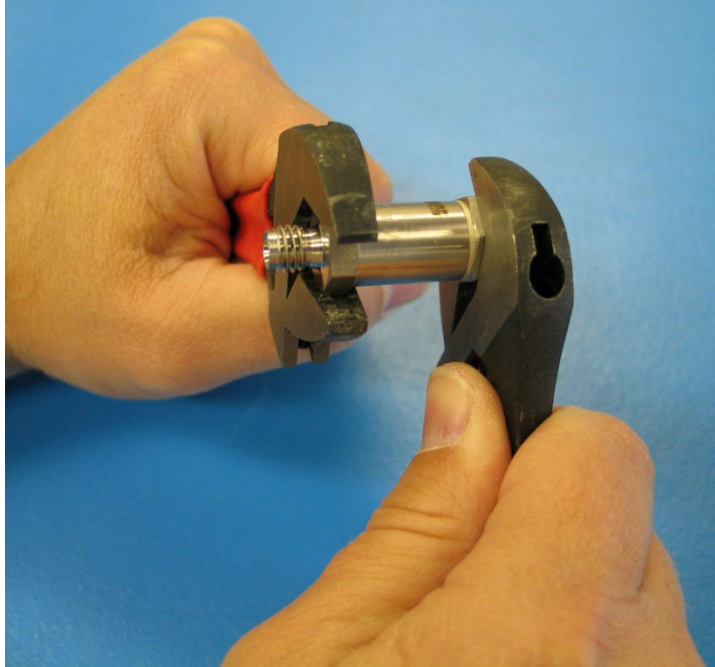

Figure 36: Removing the Filter End Caps
1. Using two wrenches, loosen the end cap of the filter by turning the wrenches in opposite directions (see Figure 36: Removing the Filter End Caps).